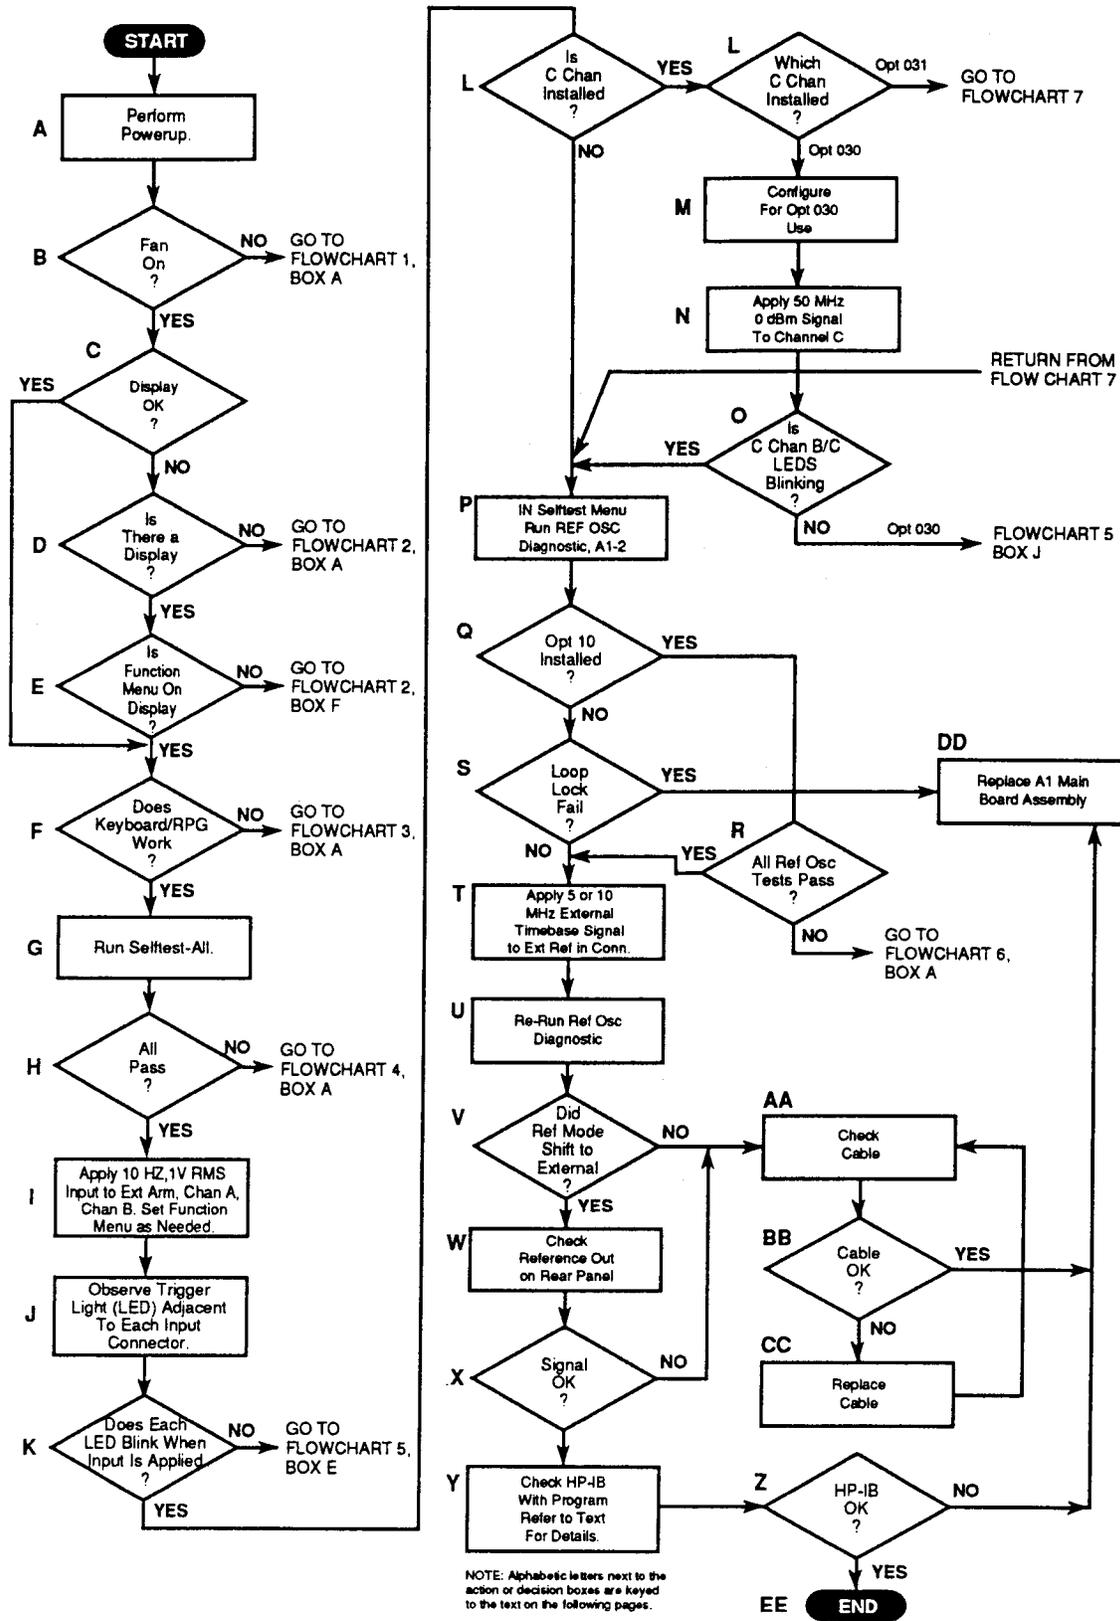

Figure 4-1. HP 53310A Primary Trouble Isolation Flowchart
The actions in the Primary Flowchart, *Figure 4-1*, can be performed WITHOUT removing the cover of the instrument. Enough front panel and other indications exist to allow close definition of the problem before removing the cover.
- 1 Perform tests in the Primary Flowchart in *Figure 4-1* and read the adjacent “PRIMARY FLOWCHART DETAILS” section for detailed explanations of each procedure called out in the Primary Flowchart.
The actions in the Primary Flowchart, *Figure 4-1*, can be performed **WITHOUT** removing the cover of the instrument. Enough front panel and other indications exist to allow close definition of the problem before removing the cover.